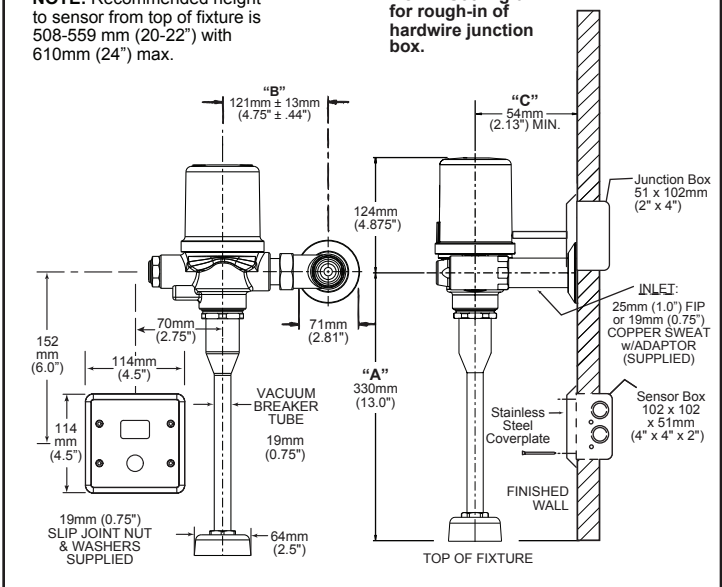

Fig. 3
- 102mm (4") box is supplied, remove suitable knockouts and insert cable bushing as per Fig. 3.